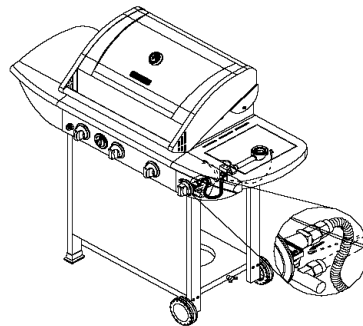

Figure 13
6. Plug ignition wire into electrode under the side burner (Fig. 13)